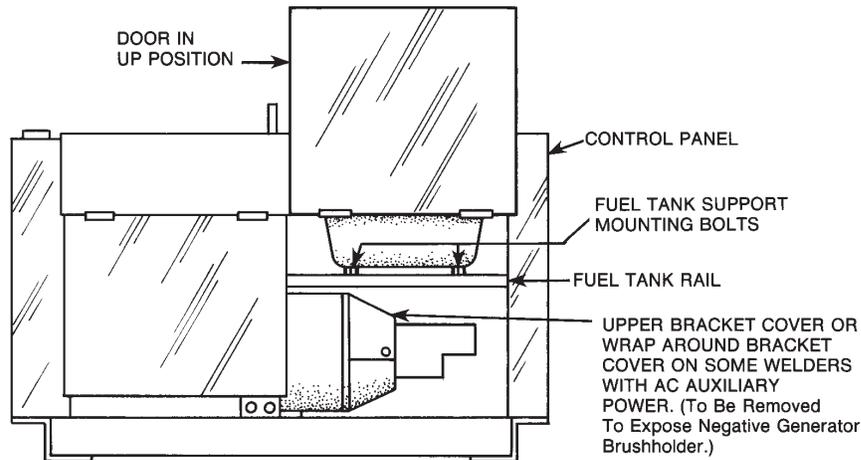
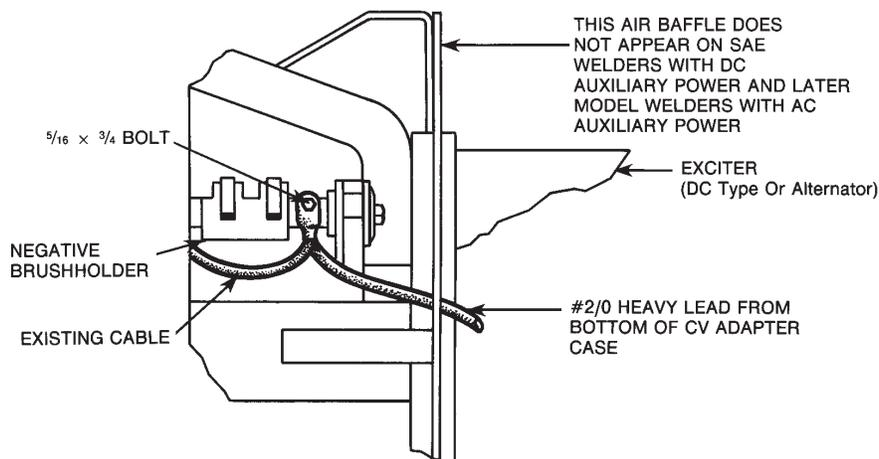

FIGURE 12 – Engine Welder (Left Side).
FIGURE 14 – View of Negative Generator Brushholder after Bracket cover is Removed.
1. Remove the upper bracket cover or the wrap-around bracket cover on older welders with AC auxiliary power. Also, remove the two fuel tank support mounting bolts on the side opposite the output terminals. See Figure 12. On the SAE-400 (with codes 10601, 10856 and 10884) and all WELD'N AIR, remove the guards mounted on the inside of the front control panel.
**NOTE: FOR STEPS 13 AND 14 REFER TO FIGURES 12 AND 14.**
13. The negative generator brushholder, exposed when upper bracket cover or wrap-around is removed (see Figure 12), is at the 11 o'clock position when the commutator is viewed from the control panel end of welder. Remove the 5/16 bolt which connects the existing cable to the negative brushholder. Route the #2/0 heavy lead which exists from the bottom of the CV adapter case as shown in Figure 14. Obtain a 5/16 X 3/4 bolt from the hardware sent with the CV Adapter and connect the #2/0 heavy lead which exits from the bottom of the CV Adapter case, along with the cable removed above, to the negative brushholder. The #2/0 heavy lead lug should be between the existing cable lug and the brushholder. Tape the #2/0 heavy lead to the battery lead on welders with DC auxiliary power to support lead. On welders with AC auxiliary power, tape the #2/0 heavy lead to the alternator exciter lead bundle coming from the alternator to support lead where possible.